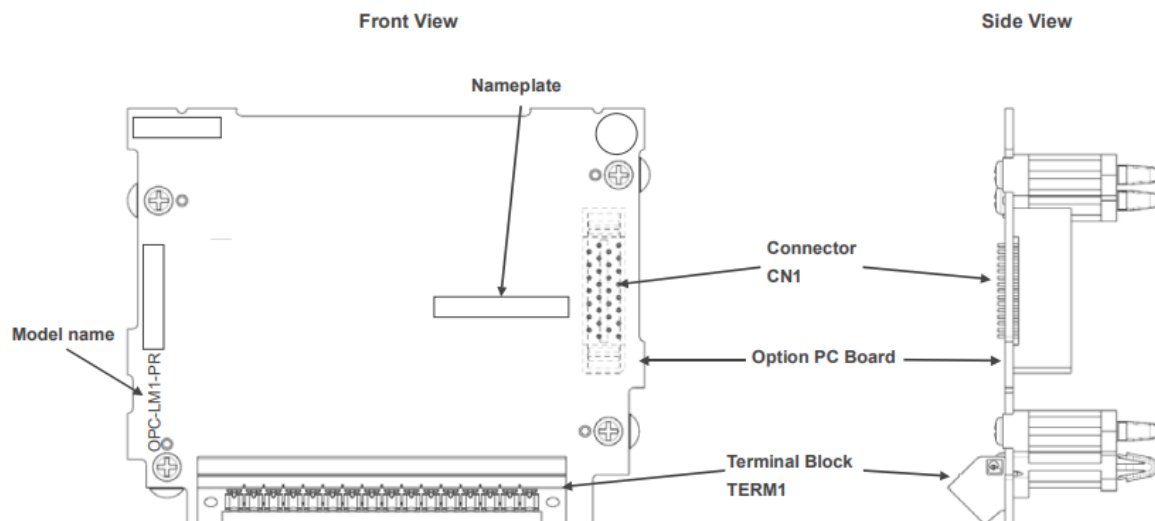

Figure 1.1 Product Appearance.
3. The model name “OPC-LM1-PR” is printed on the option card. (See Figure 1.1.)